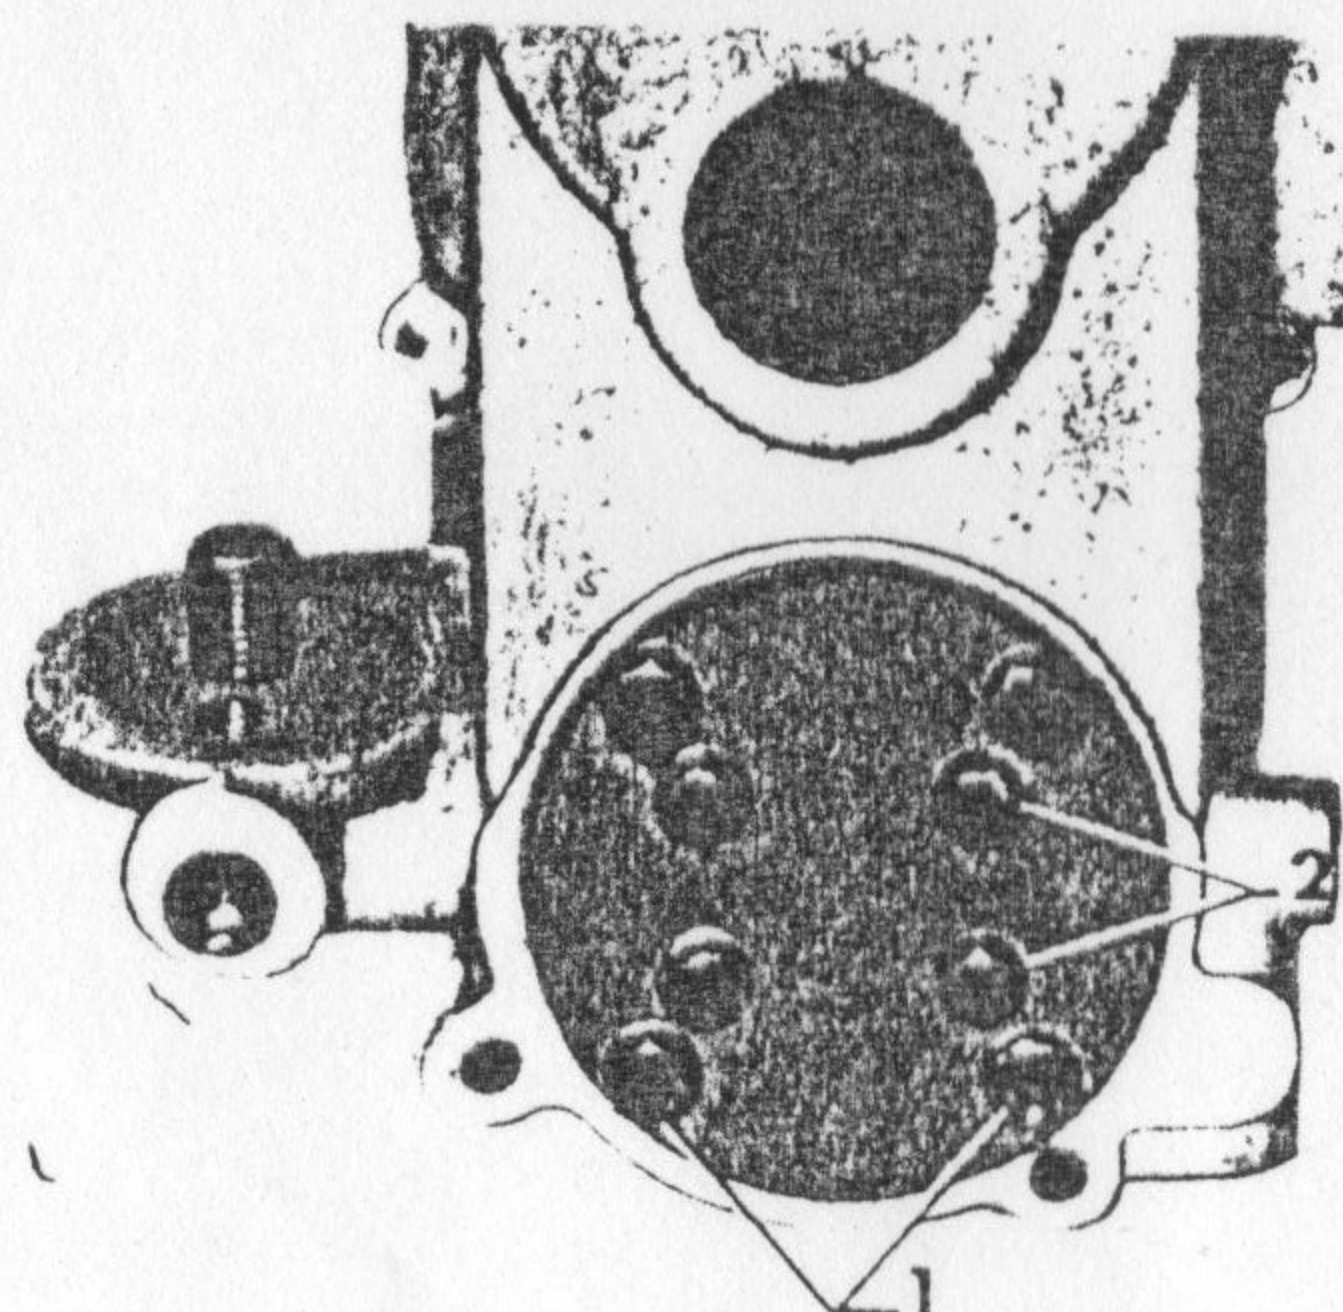

Fig. B 28
Unscrew the screws (1) and (2) of the plate (fig. B 28).